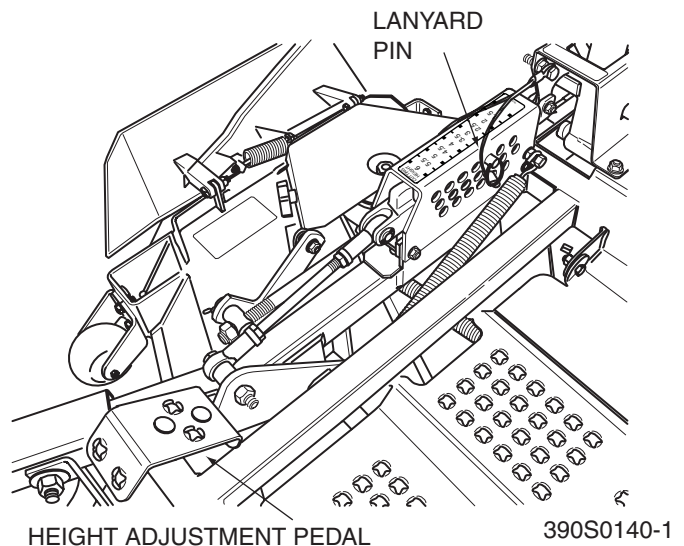

Figure 4-6 Adjusting Cutting Height
2. Push the cutting height adjustment foot pedal all the way forward using your right foot until it locks in place. (Figure 4-6).
3. Insert the lanyard pin into the cutting height index at the desired cutting height. Push forward on the deck lift foot lever, hold in place and lift up on the deck release lever, (Figure 4-7, Page 16). Slowly release the foot pedal. A deck height decal is located on the cutting height index as an aid in adjusting the deck to the desired height. (Figure 4-6).